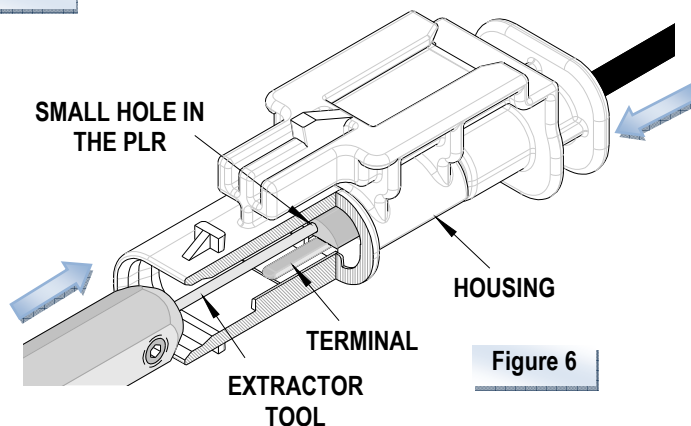

Figure 6
1. Using the 63824-2900 tool, position the extraction tool blade into the small hole (in line with the terminal to be removed) in the PLR. See Figure 6.